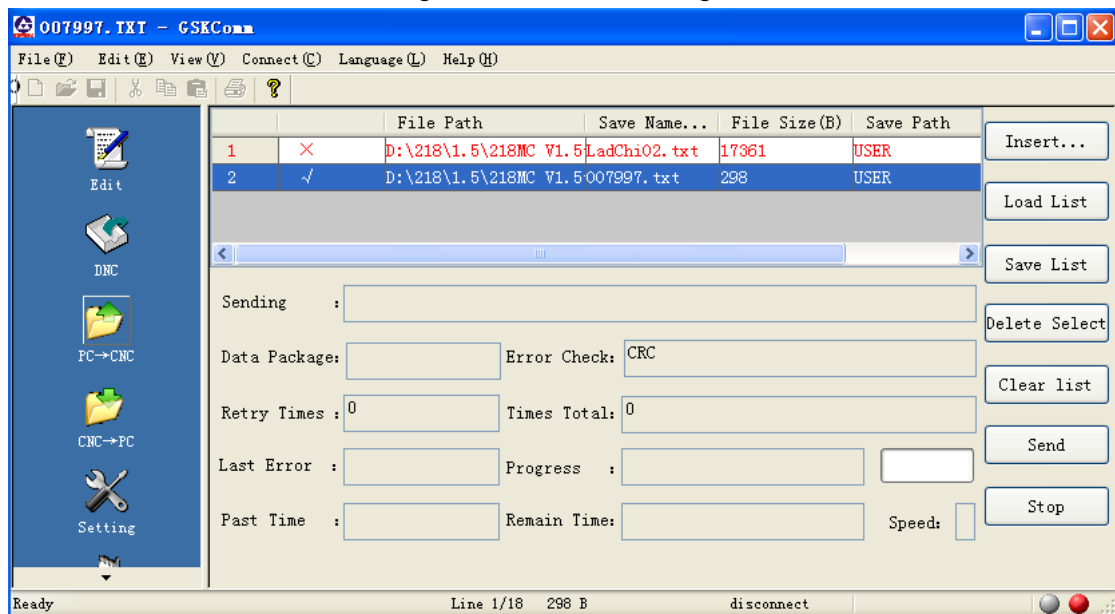

Fig. 11-2-2-7
6. After sending the file/files, “Sent” is displayed in the dialog, which is shown in Fig. 11-2-2-8.